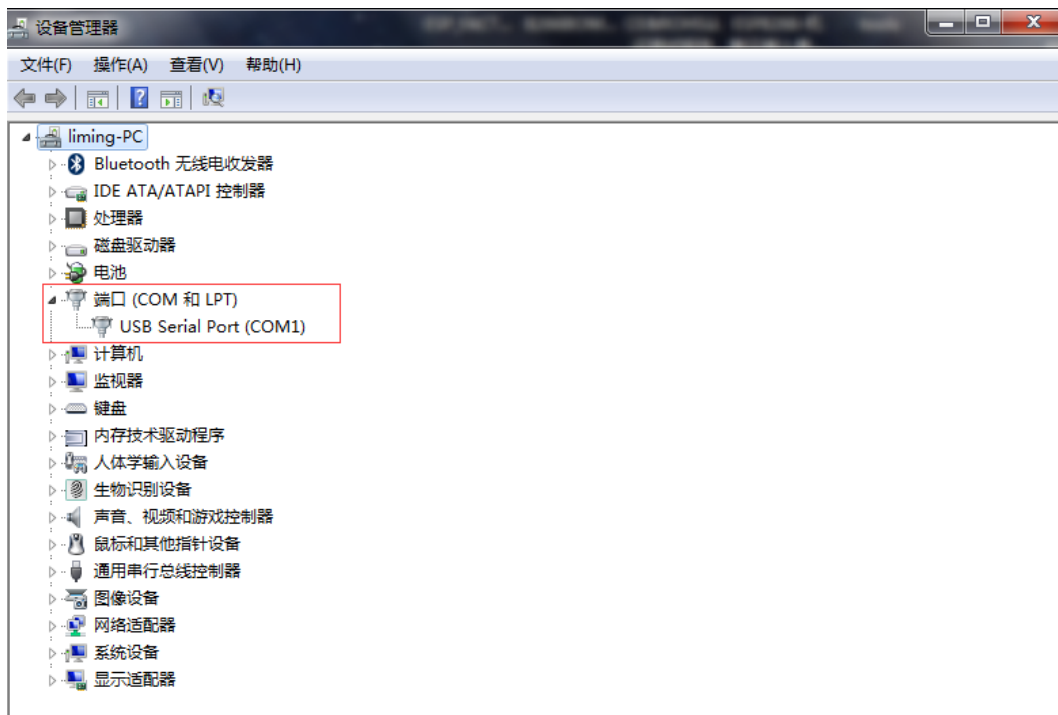
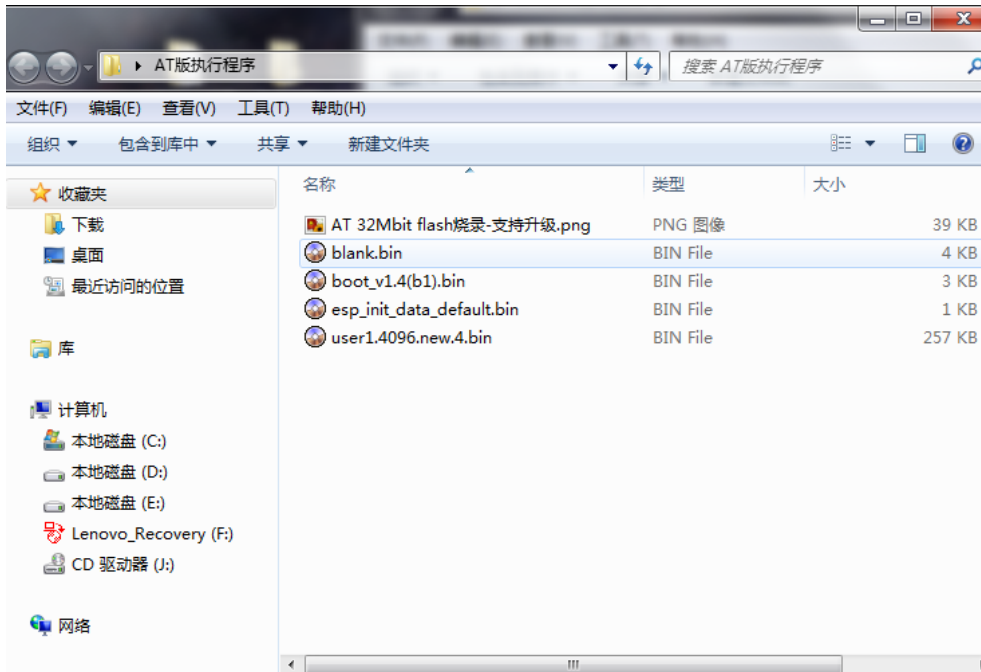

Figure 3-3 Device Management - Serial Port
Figure 3-4 Executable File of Xiao e WiFi
3、 Check the serial port on PC side, open the "Xiao e WiFi burn tool V1.2" software and set up the serial port, please refer to figure 3-3 and figure 3-4: